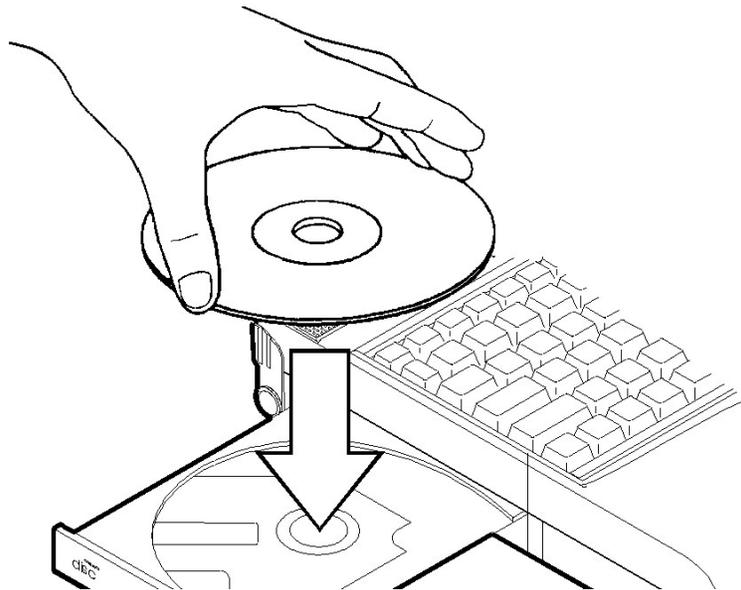

Figure 2-16
4. Carefully load the CD on the disc tray with label-side facing up. Press it gently to ensure it fits into place (Figure 2-16).